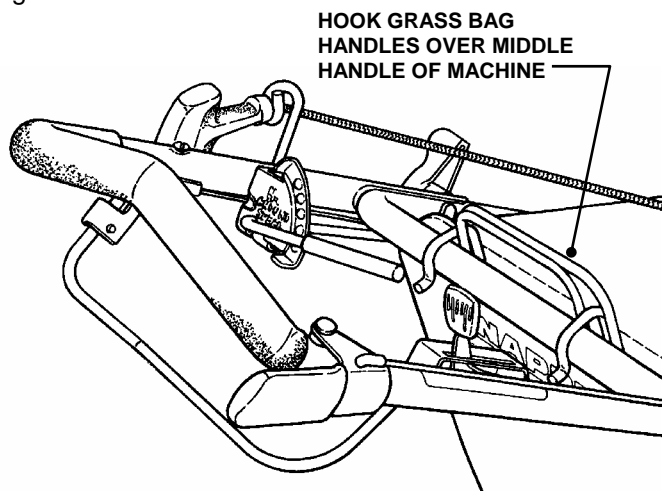

FIGURE 4
STEP 3: (Continued from previous Page) Hook grass bag handles over the middle handle of the machine. See Figure 4.